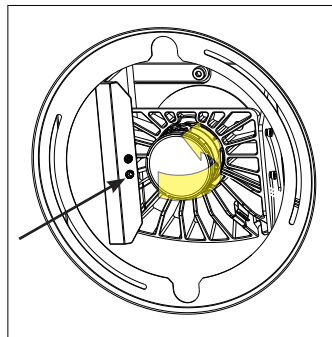

fig. 19 (Rotate)
- b. Using the same 4 mm hex tool, use the rotate control point to rotate the optic (see fig 19).